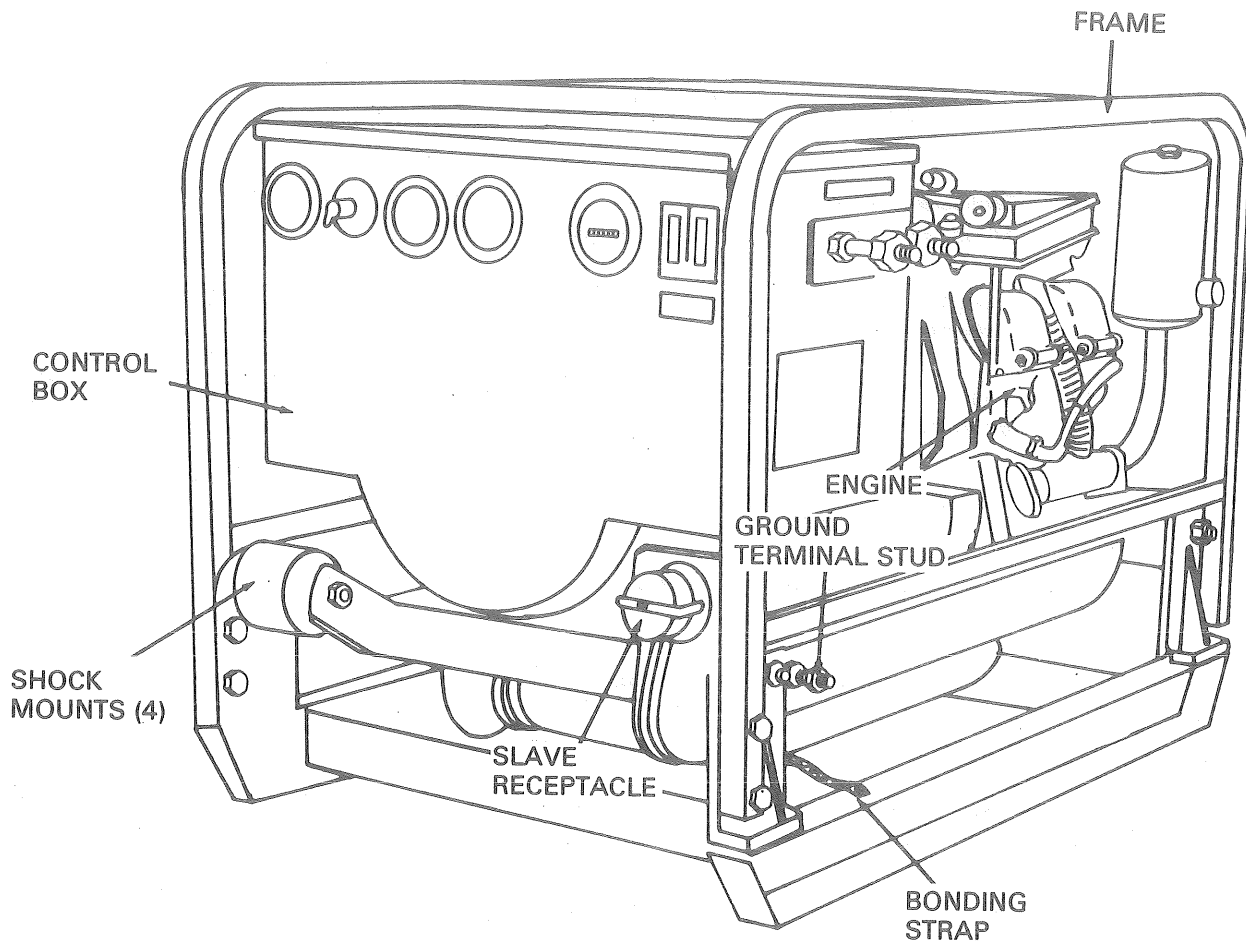

Figure 1. Generator Set 3 KW 28 V DC.
2. Ground Generator Set 3 KW 28 V DC. (Refer to fig 1, and TM 5-6115-271-14, para 4-2b.)
3. Connect DC power cable. (Refer to fig 1, and TM 5-6115-271-14, para 4-2c(2).)